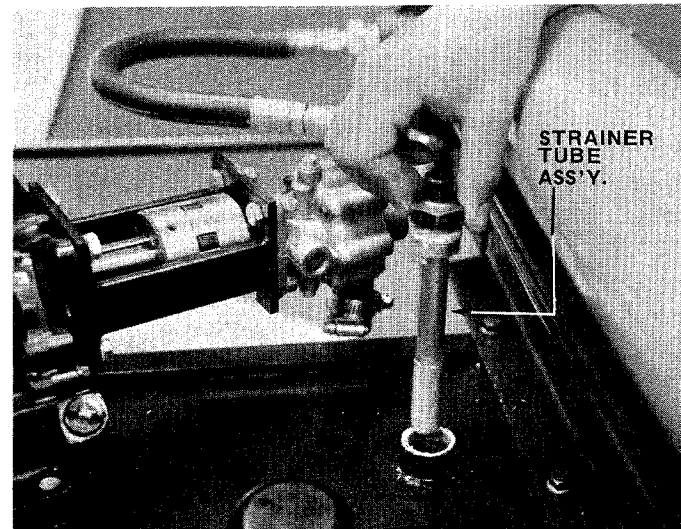

FIGURE 17
- D. With a wrench, remove strainer tube assembly. See figure 17.